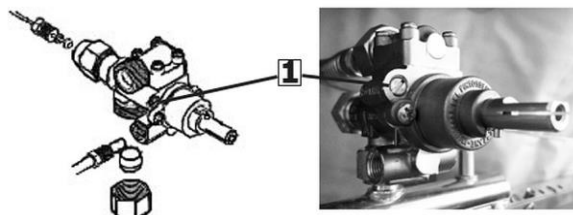

Fig. 9
1. Remove the rotary control and set the minimum or bypass screw **1** (Fig. 9).